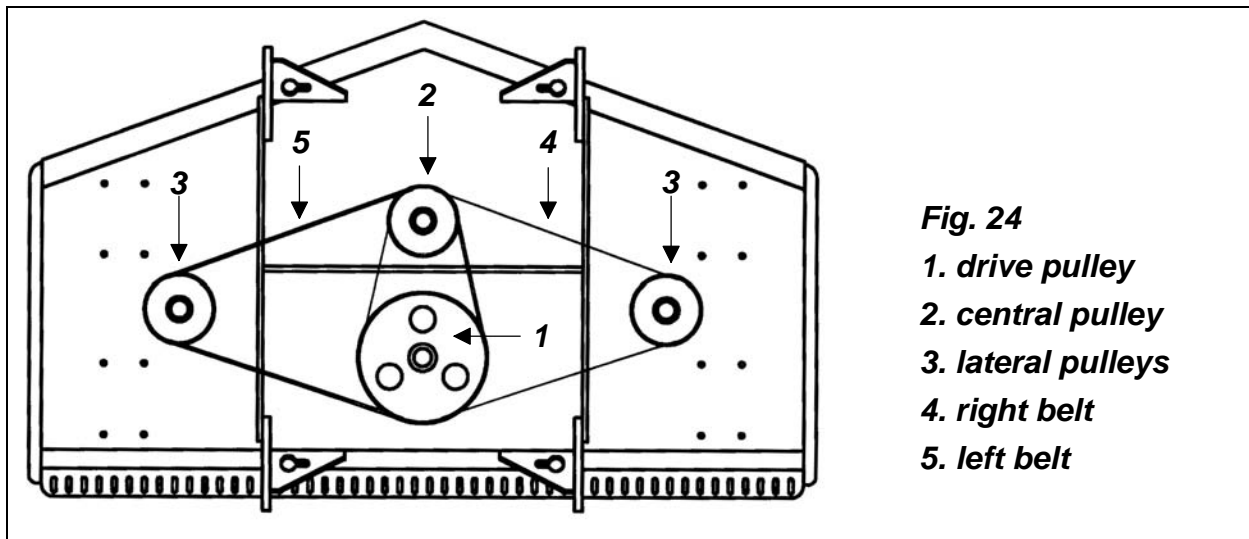

Fig. 24
8. Replace new belts (**see fig. 24**). Loop the first belt over the left spindle and around the lower groove of the center spindle pulley and the lower groove of the gearbox